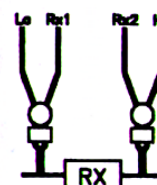

Fig. 3
4. Connect the 2 clips as following Fig. 3 to measure the unknown resistance.